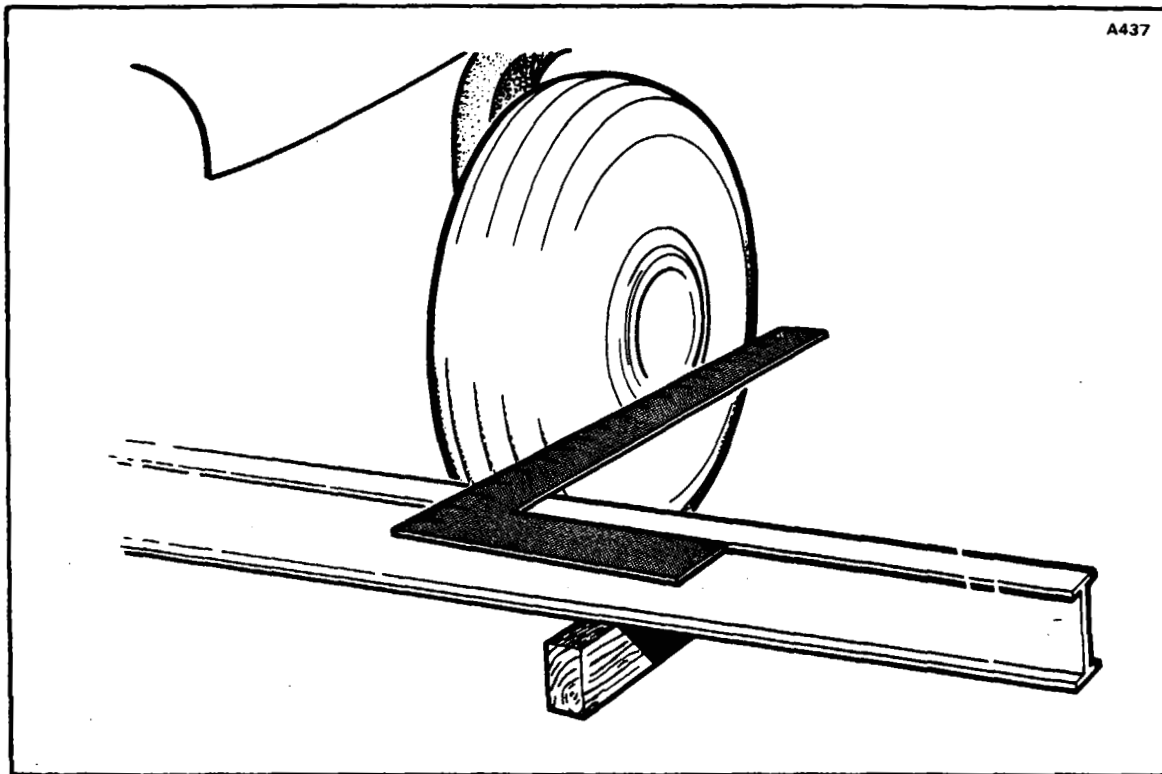

Figure 7-12. Aligning Main Gear
- b. Set a square against the straightedge and check to see if its outstanding leg bears on the front and rear sides of the tire. (Refer to Figure 7-12.) If it touches both outboard sides of the tire, the landing gear is correctly aligned. The toe-in for these wheels is 0 degrees.